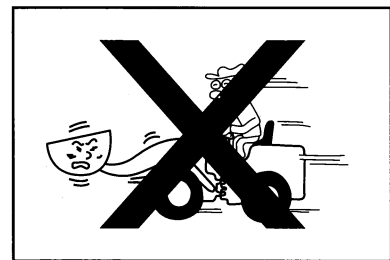

Figure1-54
- Run the engine smoothly, and don't turn the loader when it is running with high speed. (Figure 1-54)